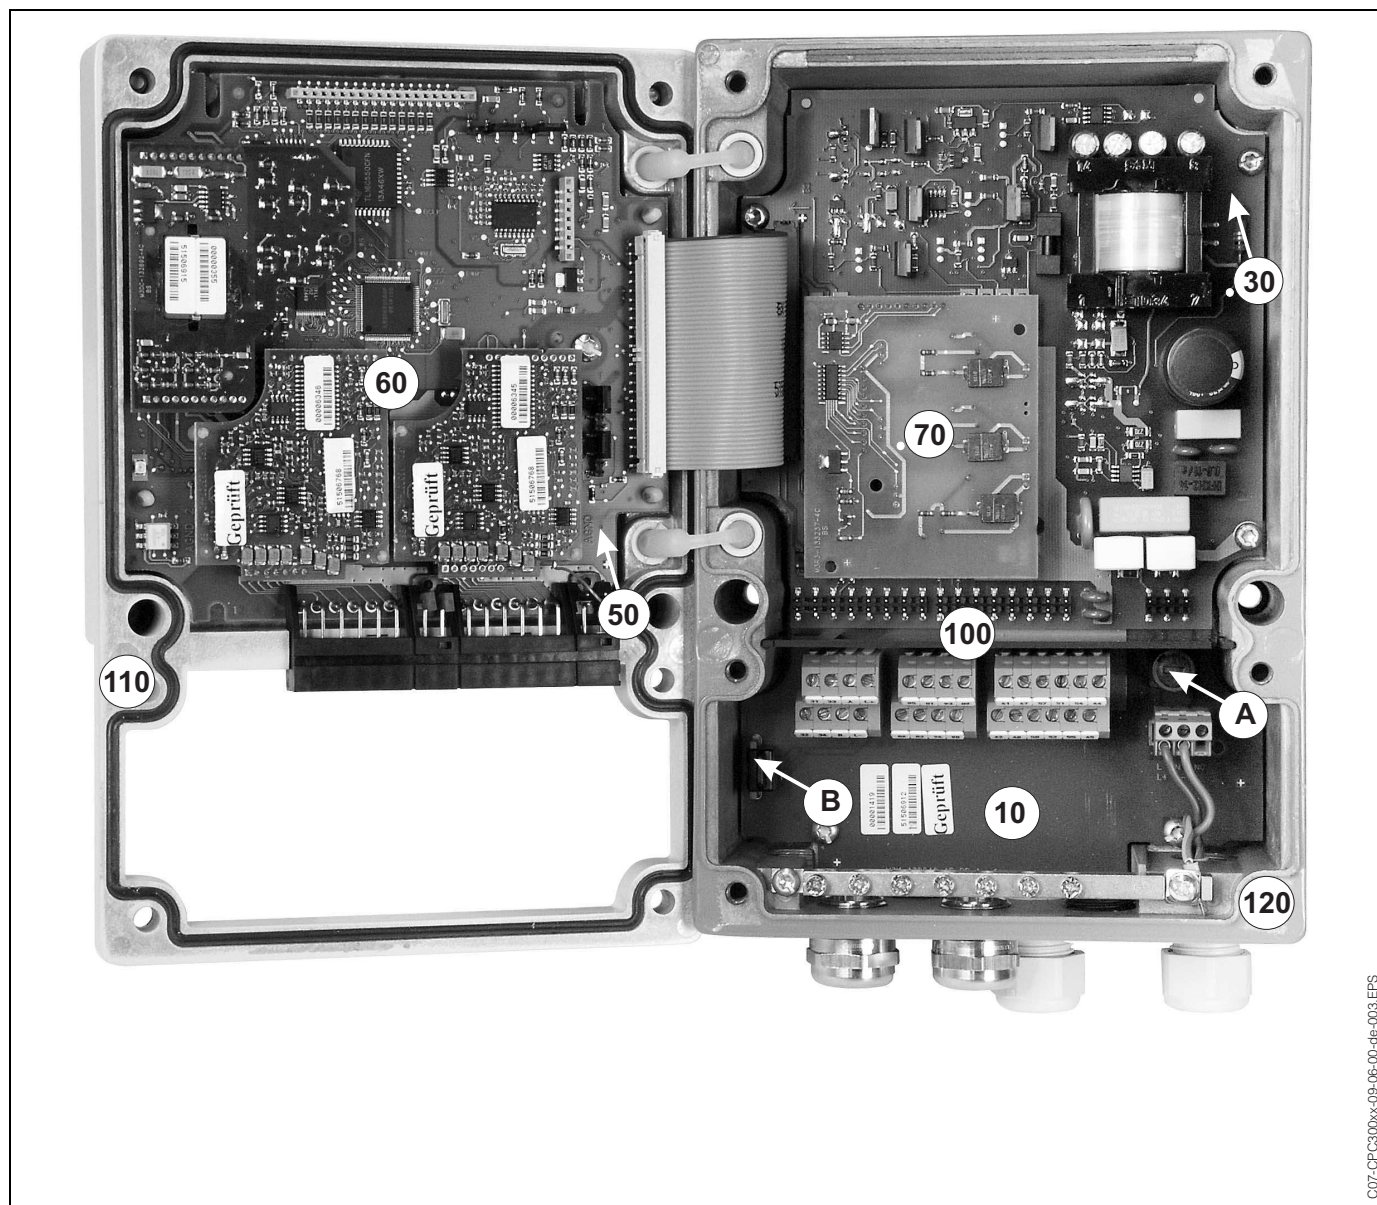

fig. 29: Interior view of the transmitter Mycom S
- Position of the fuse holder: "A" in Fig. 29.